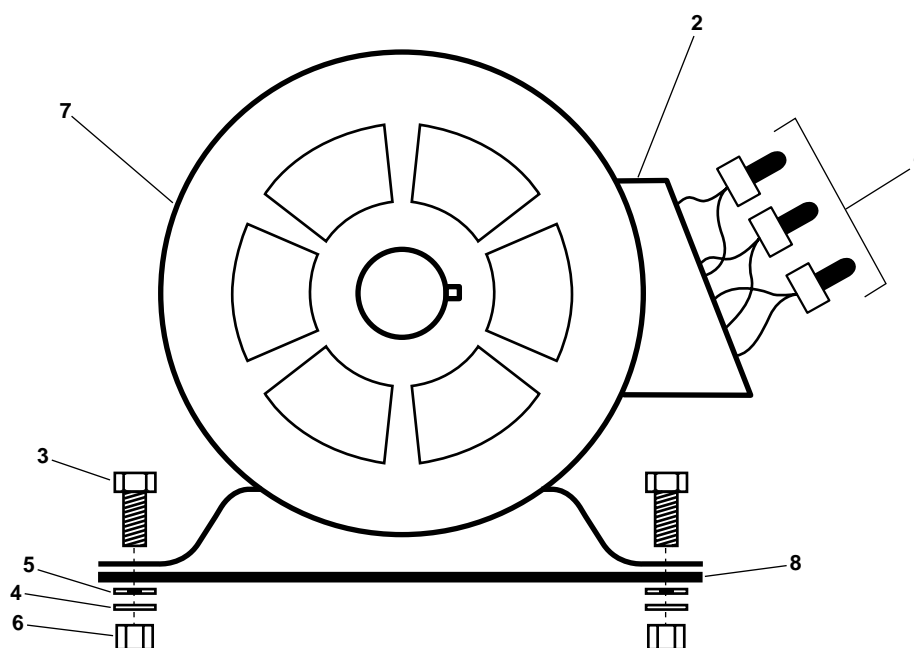
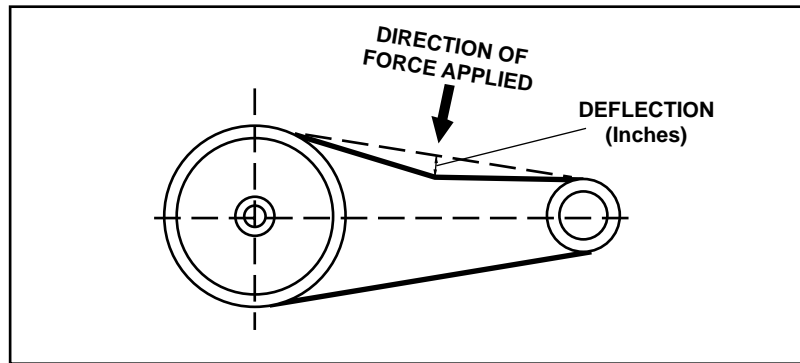

Figure 2. Junction Box
Figure 3. V Belt Midpoint
4. Use a multimeter to check for available voltage at the motor's wiring (figure 2, item 1). If voltage is available, ensure that the proper circuit breakers are secured, locked out, and tagged out (FM 55-502). If no voltage is available, continue with the procedure.
5. Label, disconnect, and remove the wiring (figure 2, item 1) from the junction box (figure 2, item 2).
6. Loosen the four mounting bolts (figure 2, item 3) and slide the motor (figure 1, item 3) toward the compressor (figure 1, item 4).
9. Remove the four bolts (figure 2, item 3), four washers (figure 2, item 4), four lockwashers (figure 2, item 5) and four nuts (figure 2, item 6) that secure the motor (figure 2, item 7) to the foundation (figure 2, item 8). Remove the motor from the foundation and discard the lockwashers.
1. Position the motor (figure 2, item 7) on the foundation (figure 2, item 8) and secure it loosely with the four bolts (figure 2, item 3), four washers (figure 2, item 4), four new lockwashers (Figure 2, item 5), and four nuts (figure 2, item 6). Do not tighten the bolts at this time.
2. Install the wiring (figure 2, item 1) into the junction box (figure 2, item 2) using the labels from step 5 of Removal as a guide. Remove the labels.
4. Install the V belt (figure 1, item 8) and slide the motor (figure 1, item 3) away from the compressor (figure 1, item 4) until the proper belt tension is achieved. Proper tension is achieved when the belt may be deflected 1/2 inch (13 mm) at its midpoint (figure 3) when applying approximately 4 to 5 pounds (1.8 to 2.3 kg) of force to the belt. A new belt should be tensioned tighter (approximately 3/8 inch (10 mm) deflection). Once proper tension is achieved, tighten the four bolts (figure 2, item 3).